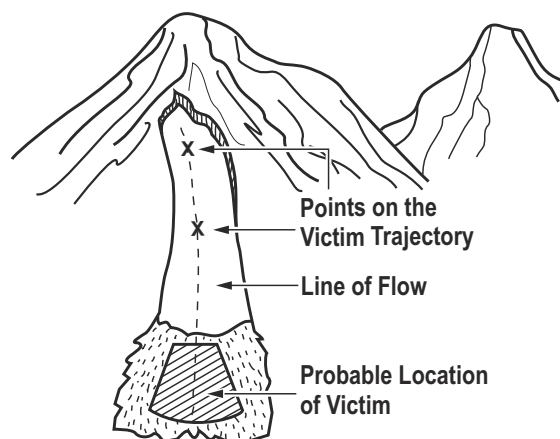

Figure 6-16. Suspected Location of Avalanche Victim.
- Draw a line from where the victim was caught, to the location of equipment, and then to the victim's last seen point. The end of this line may point to the most likely burial site (see fig. 6-16).